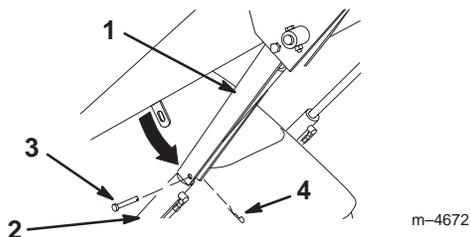

Figure 13
5. Remove the hairpin cotter and clevis pin securing the cylinder lock to the loader arm (Fig. 13)
6. Lower the cylinder lock over the cylinder rod and secure it with the clevis pin and hairpin cotter (Fig. 13).
5. Rotate the cylinder lock up to the loader arm and secure it with the clevis pin and hairpin cotter (Fig. 13).